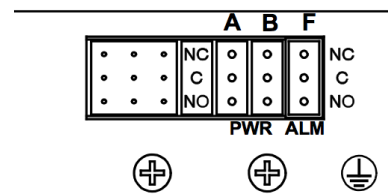

Figure 9-Ground Lug Connection
8. Connect the lug to the rear panel using the #10 screw(s) provided, as shown in Figure 9.